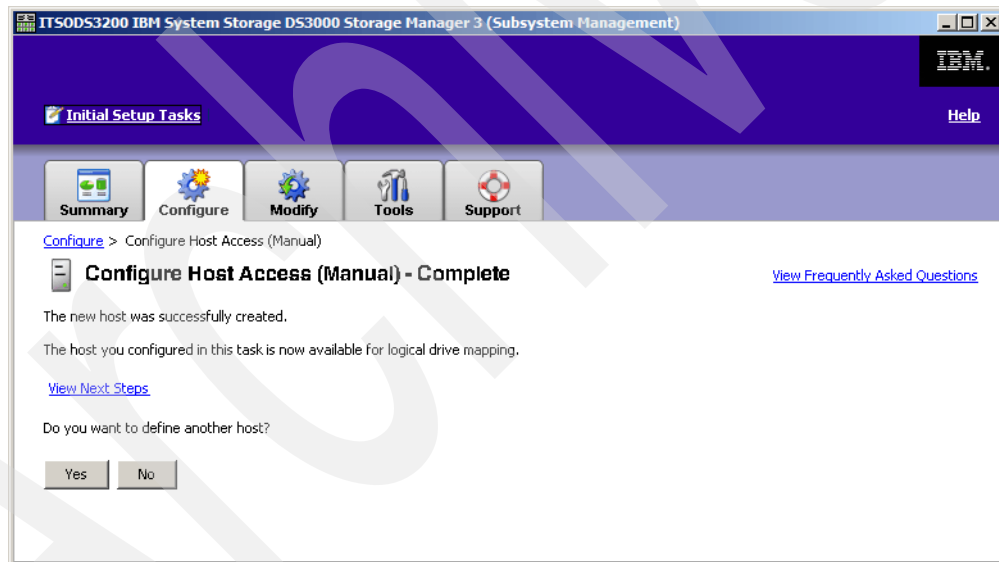

Figure 20-31 Host access completed
- Click **No** to exit the host configuration when presented with the next window, as shown in Figure 20-31.